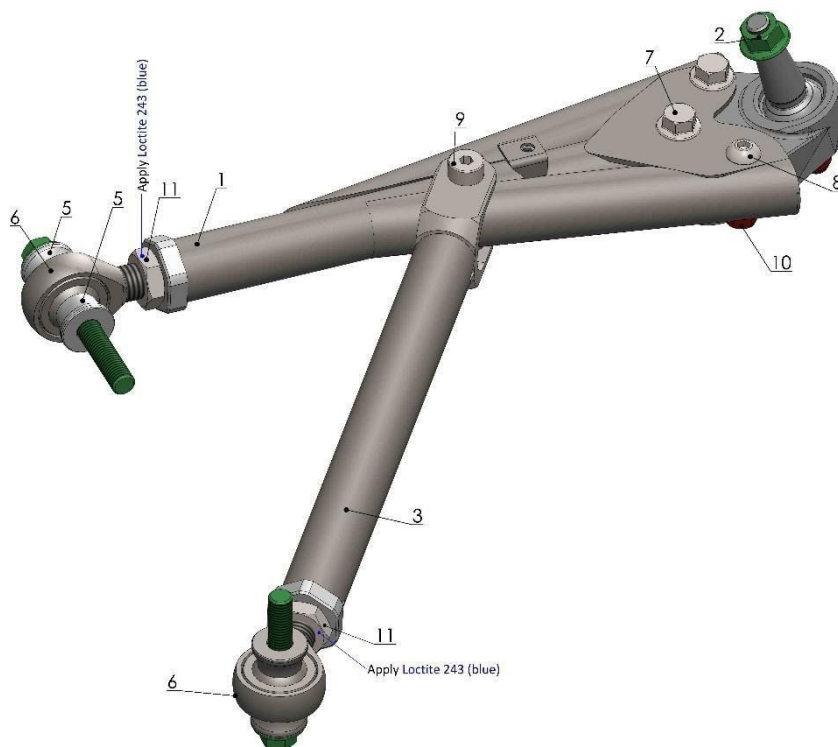

Figure 1 Front tubular wishbone assembly (OEM parts – green, one time use only parts – red).
It is possible to use second set of holes in the aluminum insert to gain extra camber. You have to remove 3 mounting bolts (Number 8,9 on Figure 1), and then pull out a little bit an aluminum bearing carrier. Reinstall the mounting bolts.
- When desired alignment setup is reached, **secure thread with Loctite 243 (Blue)** on nuts on both rod ends (2 x Number 14 on Figure 1).